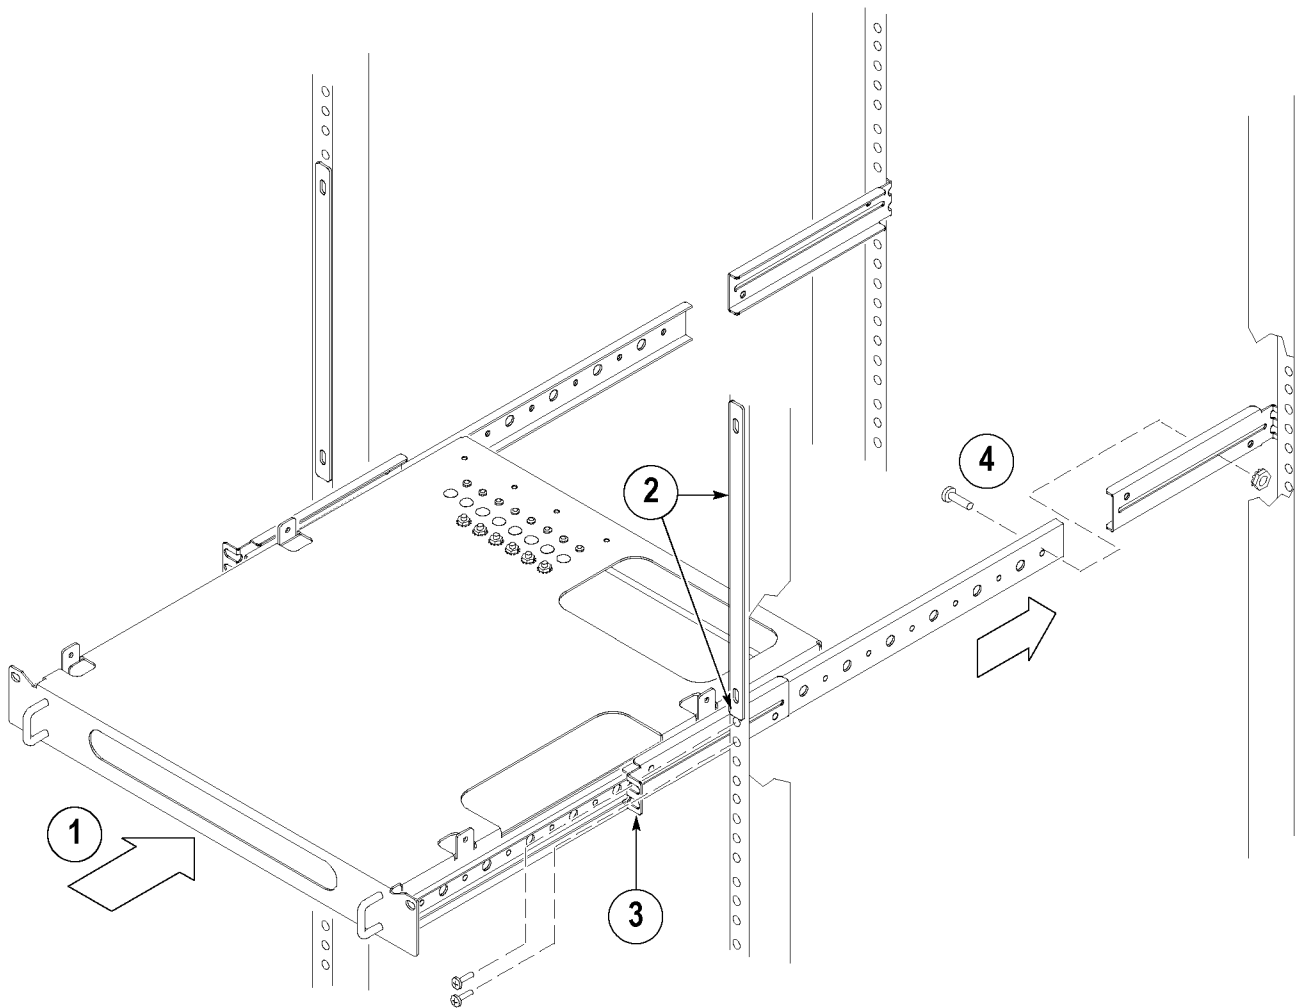

Figure 11: Installing the shelf/track assembly
5. Mount the cosmetic trim on the front, using two 10-32 screws each. (See Figure 11.) (Item 2 in this figure shows you where to locate the shelf during shelf installation).